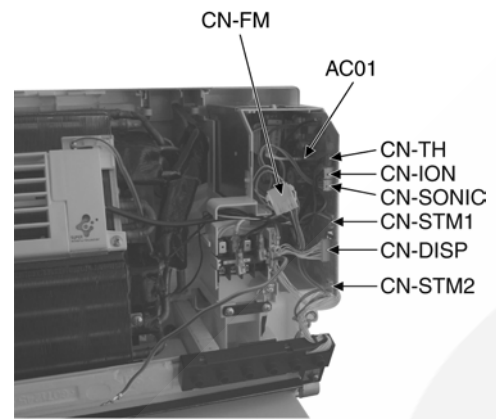

Fig. 4
- Release the CN-TH connector. (Fig. 4)
- Release the CN-ION connector. (Fig. 4)
- Release the CN-SONIC connector. (Fig. 4)
- Release the CN-STM1 connector. (Fig. 4)
- Release the CN-DISP connector. (Fig. 4)
- Release the CN-STM2 connector. (Fig. 4)
- Release the Terminal AC01 (WHT). (Fig. 4)
- Release the CN-FM connector. (Fig. 4)